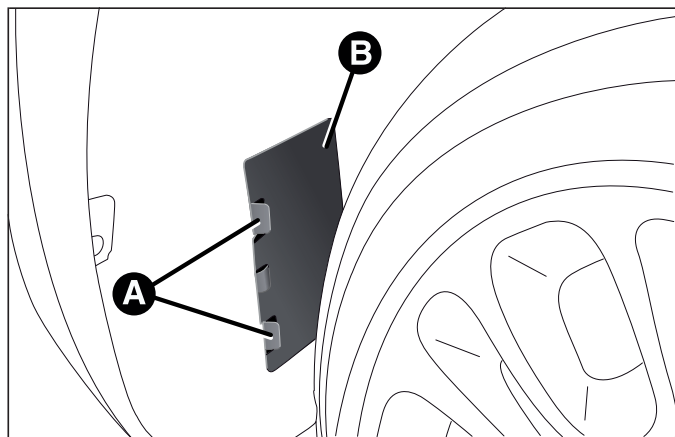

fig. 133
- ☐ adjust the screws A fig. 133 and remove the flap B;
- ☐ adjust the tabs A and remove the flap B fig. 133;